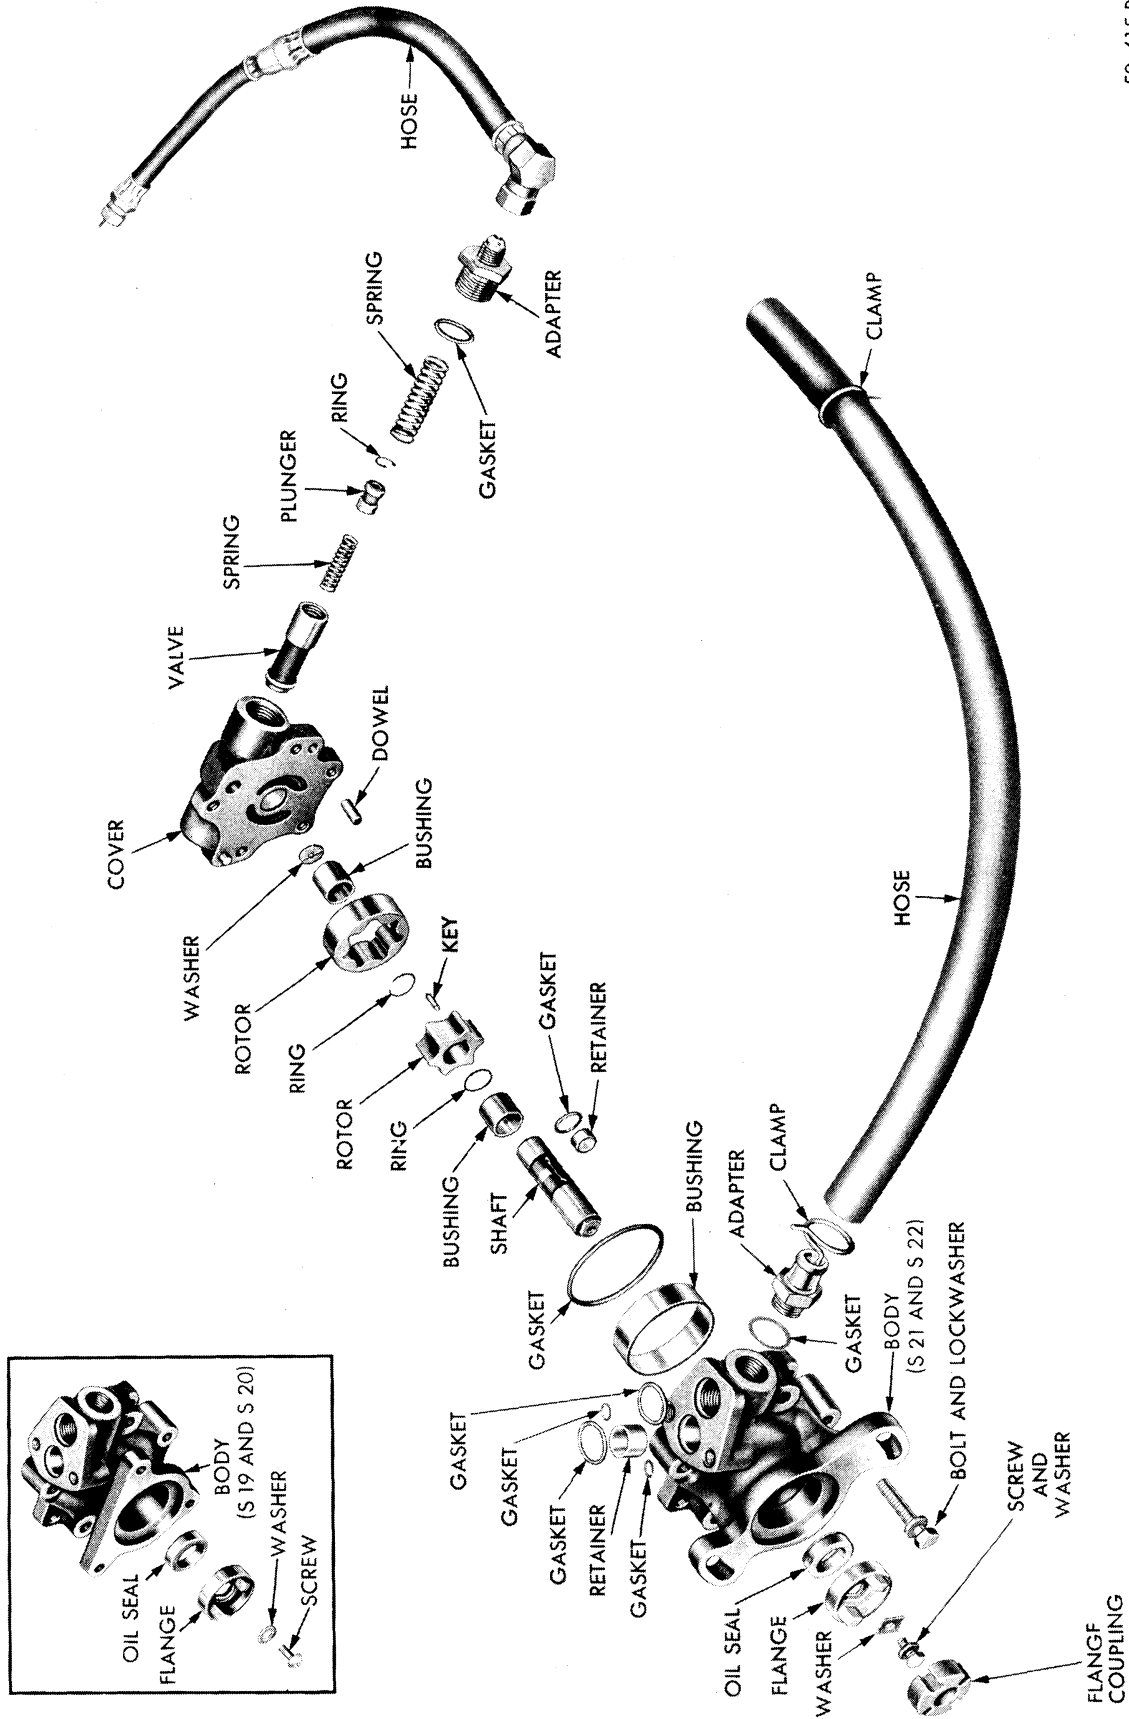
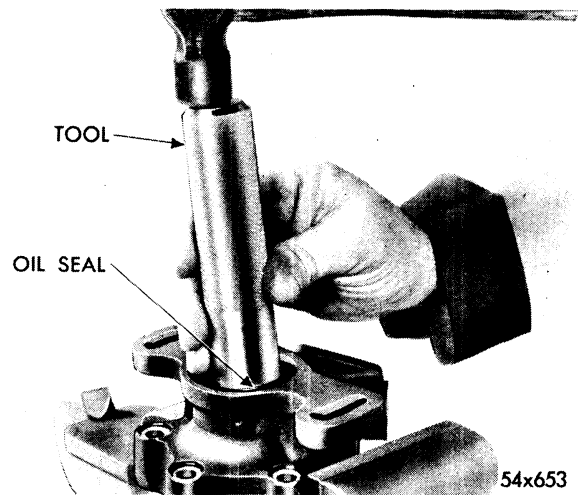

Fig. 43—Power Steering Oil Pump (Disassembled View) (Eaton Pump)
Fig. 51—Installing Pump Shaft Oil Seal with Tool C-3230
22. SERVICING THE HYDRAULIC PUMP (FIG. 43)
Reposition pump body in vise. Place seal on tool, (Fig. 51). Drive seal into position in pump body. To assemble pump, refer to Figure 43, and proceed as follows: